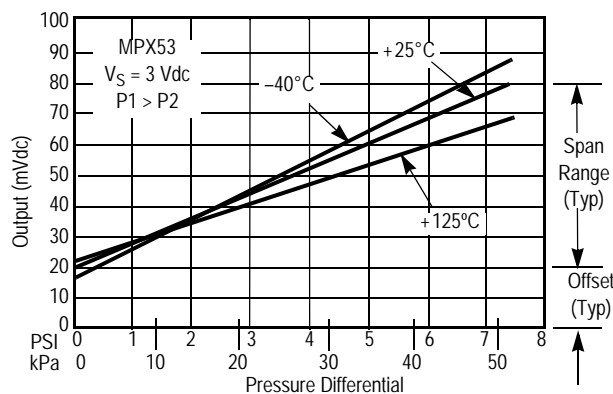

Figure 3. Output vs. pressure differential
Figure 3 shows the typical output characteristics of the MPX53 series over temperature.
Linearity refers to how well a transducer's output follows the equation: $V_{OUT} = V_{OFF} + (\text{sensitivity} \times P)$ over the operating pressure range (see Figure 3). There are two basic methods for calculating nonlinearity: (1) end point straight line fit or (2) a least squares best line fit. While a least squares fit gives the "best case" linearity error (lower numerical value), the calculations required are burdensome.